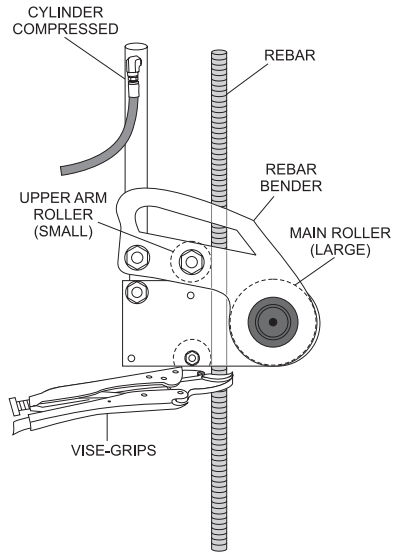

Figure 12. Rebar Placement
2. Place the rebar bender over the rebar between the main roller and upper roller arm at the desired elevation of the bend as shown in Figure 12. Use vise-grips to hold the rebar bender base in place.